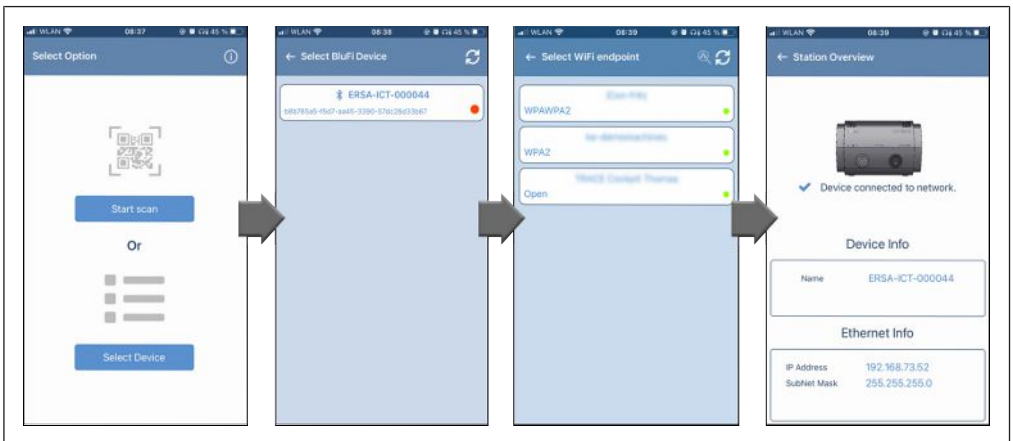

Fig. 11: Bluetooth connection: Scan the QR code of the soldering station or select the Bluetooth network
- a) In step 1, select the [START SCAN] button (see Fig. 11, screenshot on the left) and scan the QR code on the soldering station's name plate.
- a) In step 1, select the [SELECT DEVICE] button (see Fig. 11, screenshot on the left).